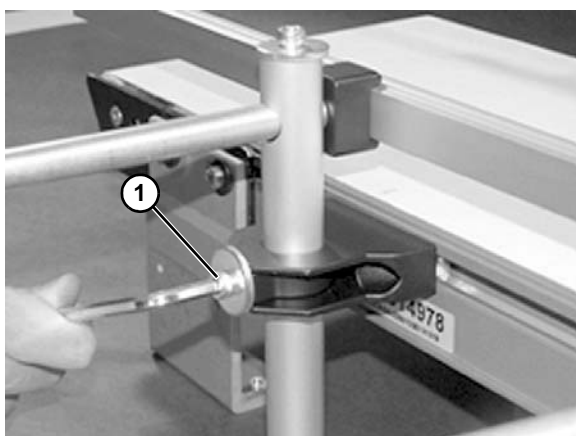

Figure 75
7. Adjust rail height with lower screw (**Figure 75, item 1**).